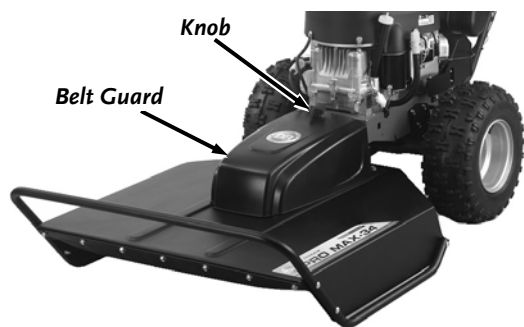

Figure 44
1. Unscrew the Hand Knob and remove the Belt Guard (**Figure 44**).